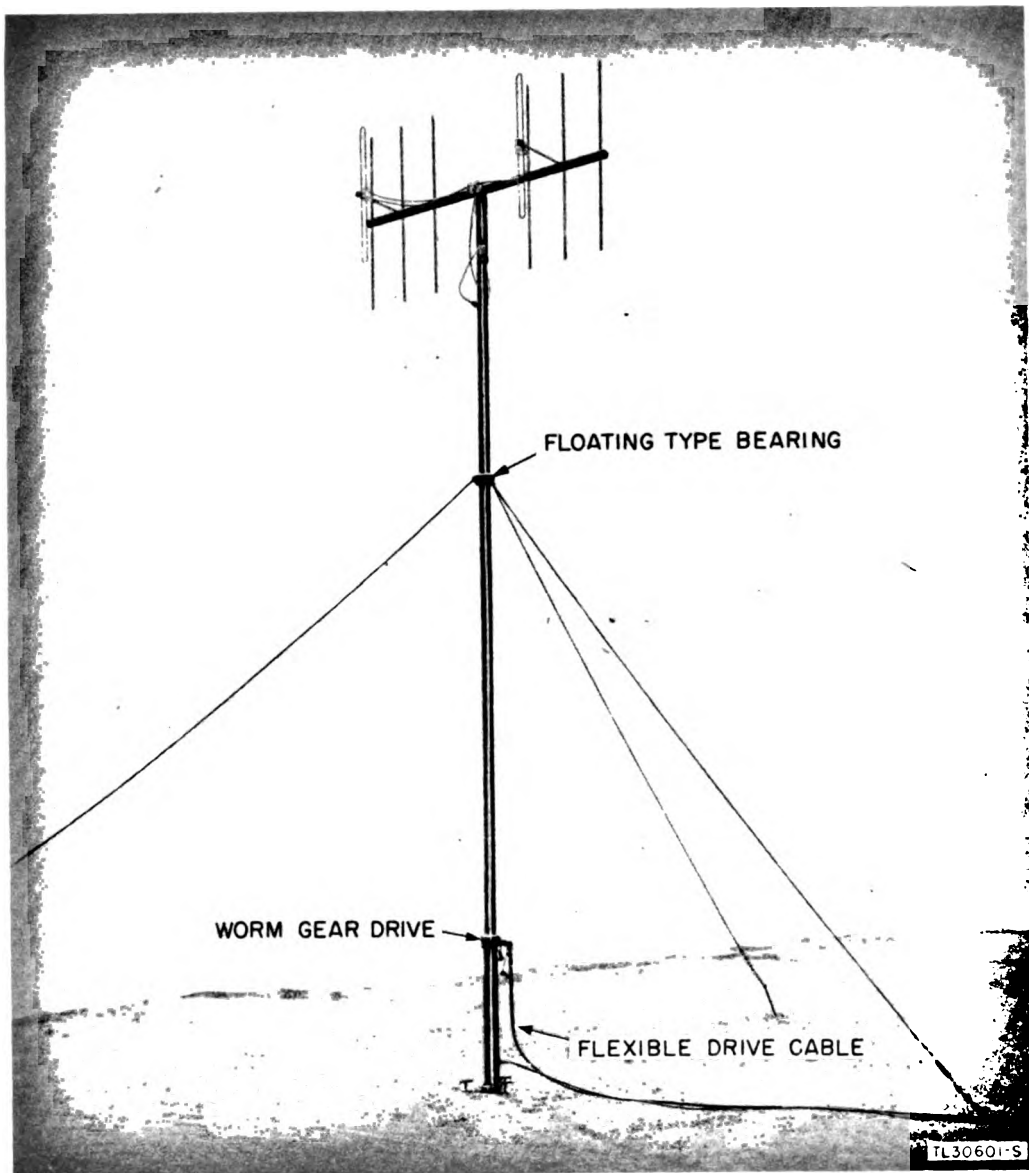

Figure 22. Tower TR-29, antenna in place.
**e. Tower TR-29 (fig. 22).** The tower consists of a three-section 16-foot mast mounted on a triangular base and supported by three guy cables. The guy cables fasten to a floating-type bearing on the top mast section and are secured to the ground with screw-in anchors. The base is staked to the ground and has a hinge pin and wingnut for fastening the mast in place. Rotation of the tower is controlled by a remote antenna drive.